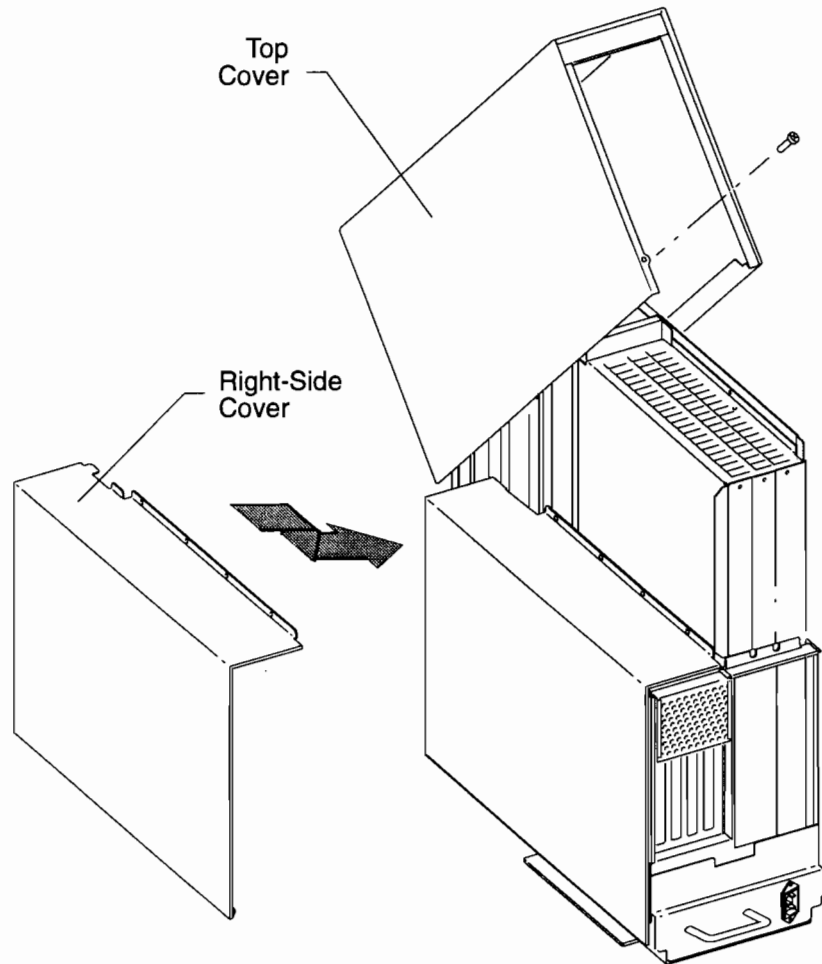

Figure B-15. Replacing the Right-Side Cover
- 10.** Replace the right-side cover, as shown in Figure B-15.